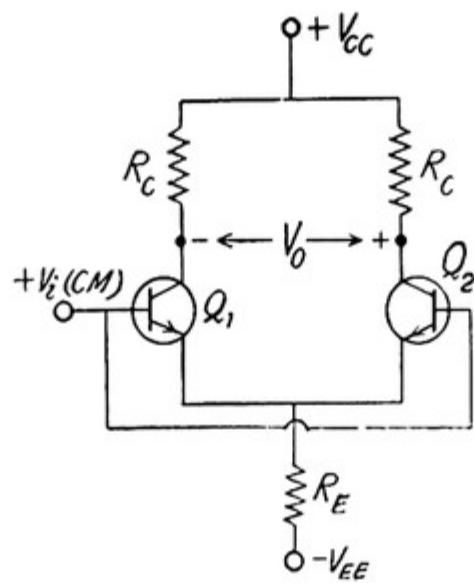

Fig. 10. Common mode input.
(3) *Common mode input* : The same signal is applied to both inputs as shown in fig. 10. If each half of the differential amplifier is identical, a.c. output voltage will be zero. Common mode input signals are used to test how identical the two halves of the amplifier are.
Also if in fig. 10,  $V_i(CM) = 1.0 \text{ volt}$ ,  $A = 100$ ,  $V_o(CM) = 0.01 \text{ volt}$ , then for such an amplifier